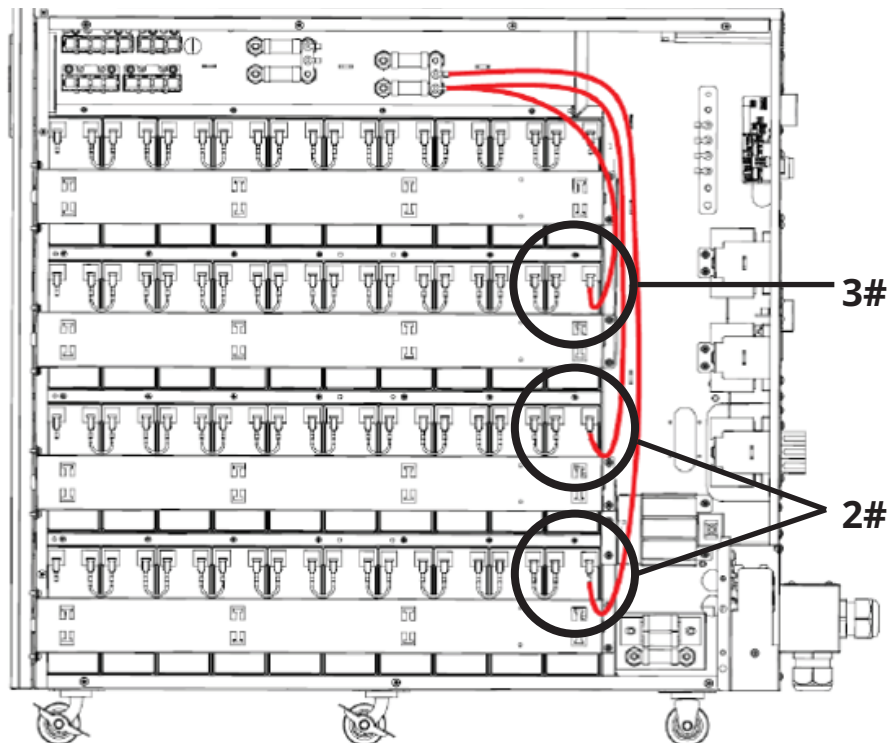

Figure 3-14: Connect Battery Packs to Positive Fuse
9. Connect the three battery packs to the positive fuse (Figure 3-14).